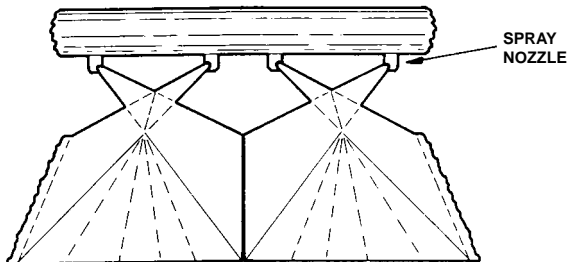

Figure 7a – Nozzle Spray Distribution (Cooling Towers)
3. Check to see if the nozzles are producing the spray pattern shown in Figure 7a for cooling towers or 7b for coil products.